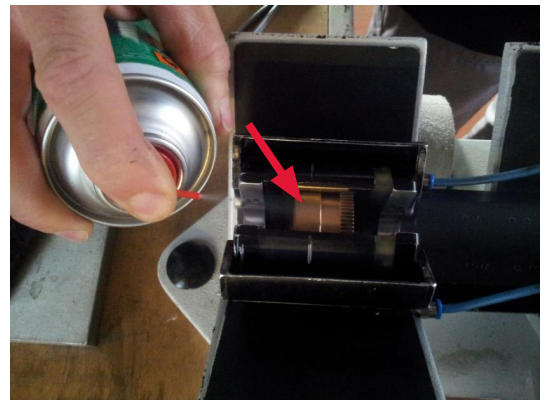

Fig. 2 Cleaning using spray
2. Once the gear wheel (rotor) has reached the position, spray the cleaner contacts in the direction shown in Fig. 2, continuously during the rotation on the gear. Continue for the entire extension of the gear.